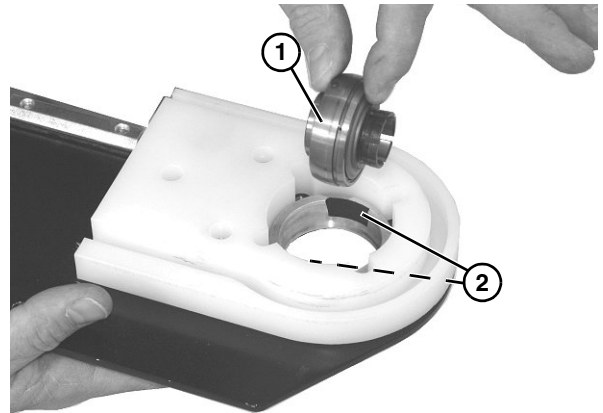

Figure 61
1. Turn bearing (**Figure 61, item 1**) to align with slots (**Figure 61, item 2**) in bearing housing. Then remove bearing.